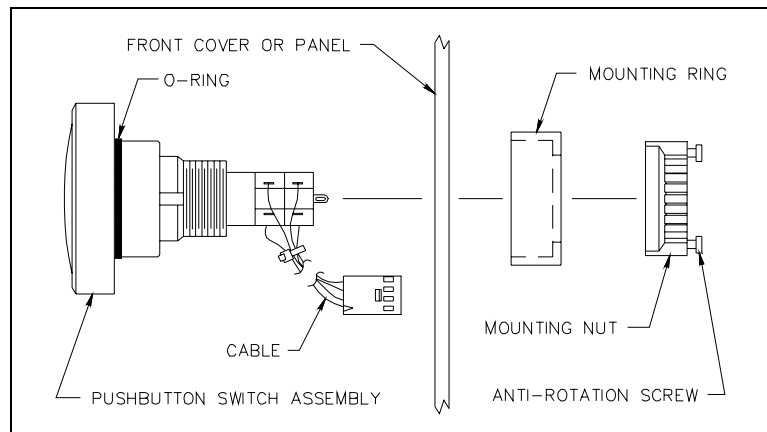

Figure 1. Push-Button Switch Assembly, Exploded View
7. Using the 1/8-inch straight slot screwdriver, loosen the anti-rotation screws on the mounting nut. See Figure 1.
1. From the front side of the panel, push the new push-button assembly through the hole. See Figure 1.
2. Secure the push-button assembly to the front cover using the mounting ring and the mounting nut. See Figure 1.
NOTE: Ensure that the o-ring seal is in its proper location, as shown in Figure 1.
2. Secure the push-button assembly to the panel using the mounting ring, and the mounting nut. See Figure 1.
NOTE: Ensure that the O-ring seal is in its proper location, as shown in Figure 1.